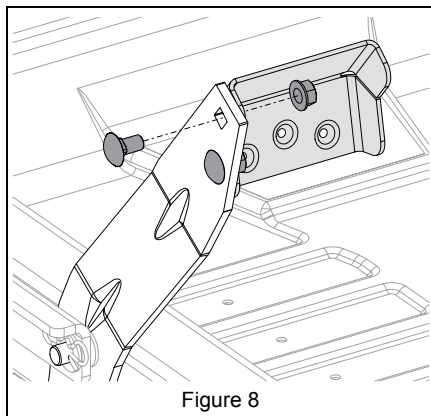

Figure 8
See Figure 8.
2. Rotate pedal as shown in Figure 8 and secure to unit with hardware removed in step 1.